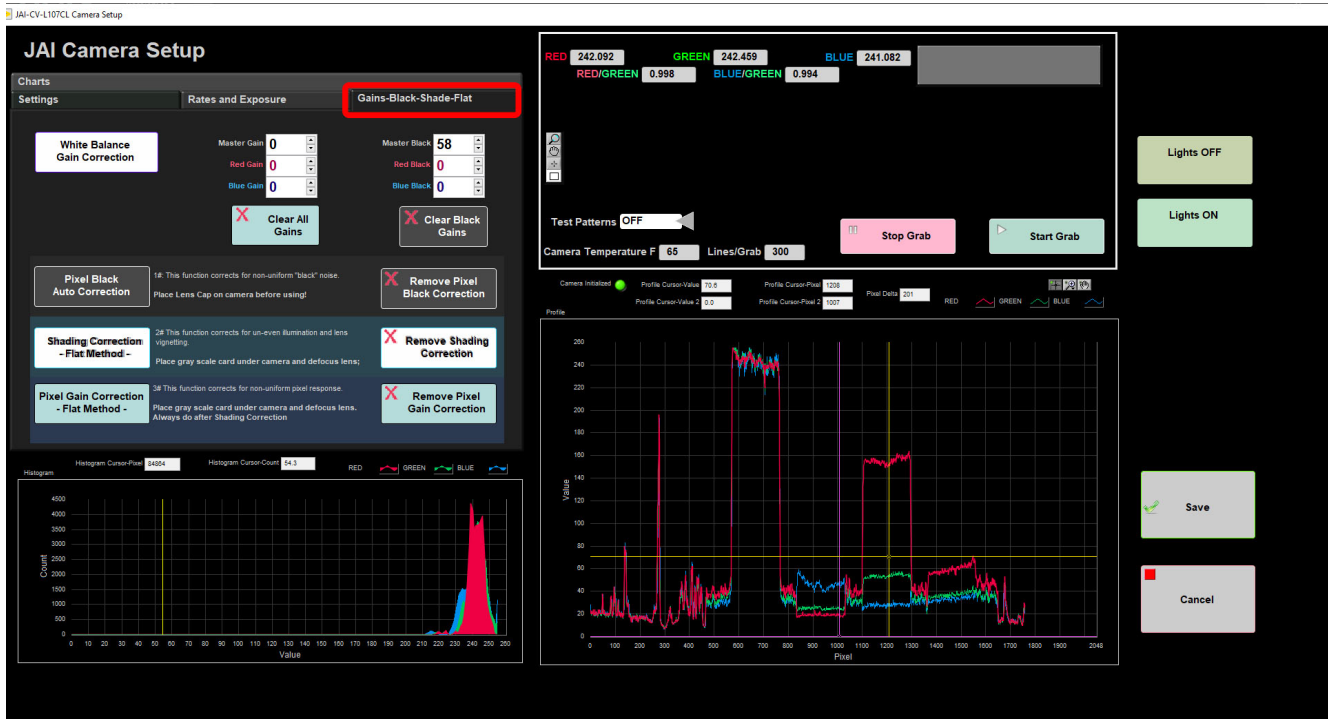

Figure 14. JAI Camera Setup Window showing the Gains-Black-Shade-Flat tab. The Gains-Black-Shade-Flat tab is outlined in red.
1. Click the **Gains-Black-Shade-Flat** tab (Figure 14).